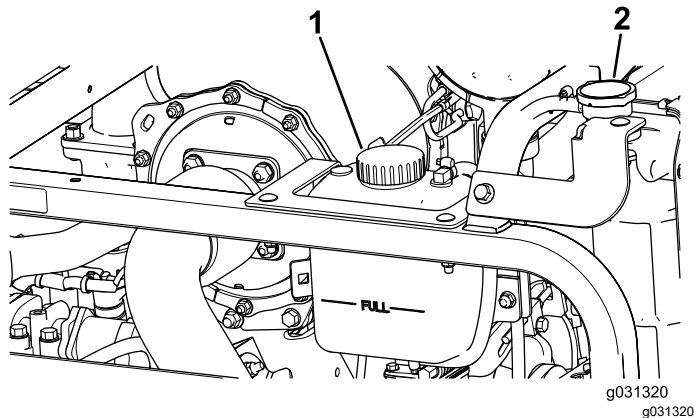

Figure 116
1. Carefully remove the radiator cap and expansion-tank cap (Figure 116).
2. Check the coolant level in the radiator (Figure 116).